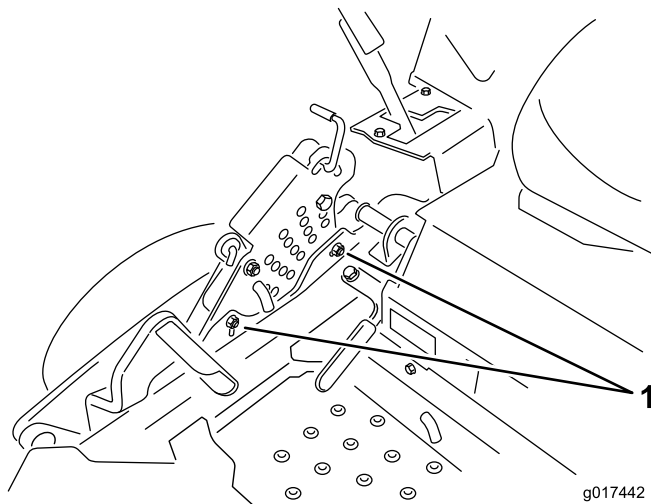

**Figure 73**
10. If needed, loosen the whizlock nut on the side of the yoke and the jam nut on top (Figure 73).
17. Fine tune the screw adjuster by turning it to get 8.3 mm (3-1/4 inches) height (Figure 73).